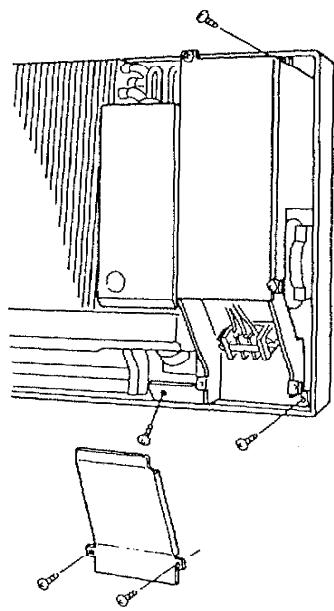

Fig. 4
- b) Remove the four screws. Fig. 4